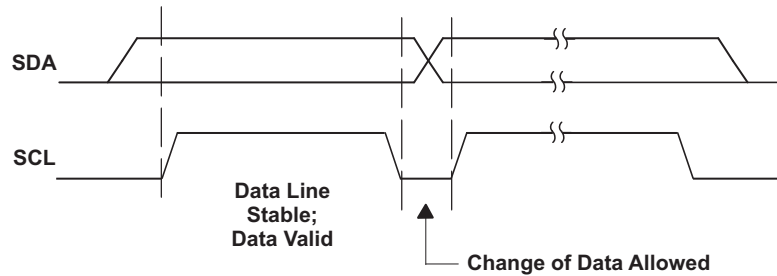
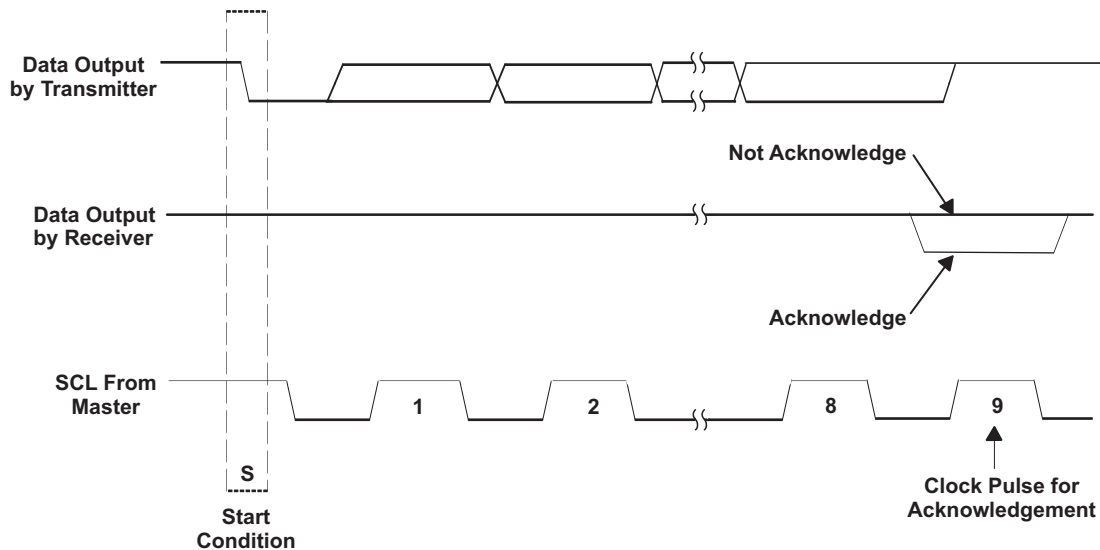

Figure 20. I²C Bit Transfer
Figure 21. I²C Acknowledge
- The master then generates the SCL pulses and transmits the 7-bit address and the read/write direction bit R/W on the SDA line. During all transmissions, the master ensures that data is valid. A valid data condition requires the SDA line to be stable during the entire high period of the clock pulse (see Figure 20). All devices recognize the address sent by the master and compare it to their internal fixed addresses. Only the slave device with a matching address generates an acknowledge (see Figure 21) by pulling the SDA line low during the entire high period of the ninth SCL cycle. On detecting this acknowledge, the master knows that a communication link with a slave has been established.